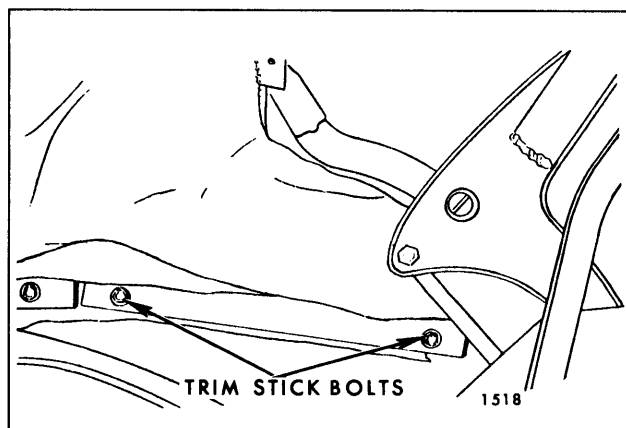

Fig. 13-30—Rear Quarter Trim Stick
17. At each rear quarter area remove attaching bolts securing rear quarter trim stick assembly to rear quarter inner panel (Fig. 13-30).